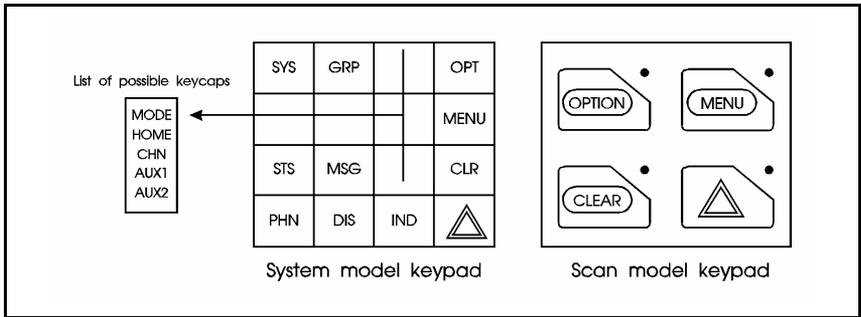

Figure 5 - Standard Orion Keycaps Configuration
The Standard keycap package for the System radio includes five (5) labeled keycaps (MODE, HOME, CHN, AUX1 and AUX2) and six (6) blank keycaps, which can be placed on any of the five key locations (numbers 3-6 and 9) shown in Figure 5. The keycap represents the primary function programmed for that key location. See the **Key Description** section for a description of the primary function associated with these five (5) keycaps.